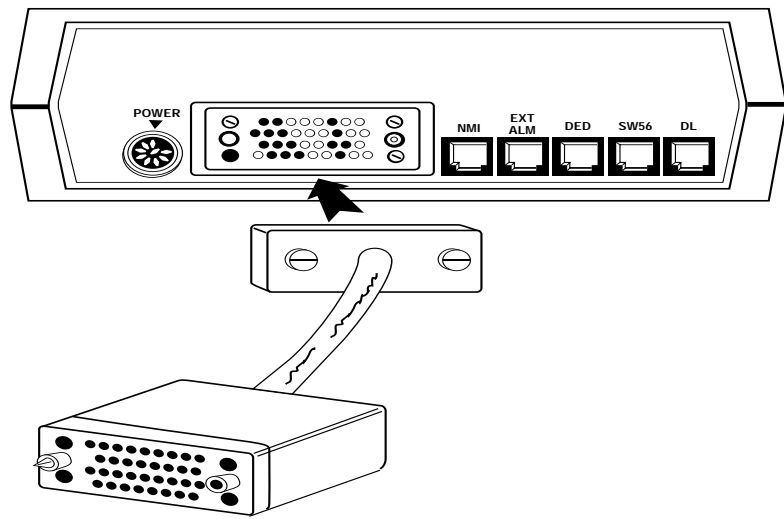

Figure 3-3. V.35 DTE Connection
- **V.35** - Use Adapter Part No. 27C522-02 (25-pin male to 34-pin female) to make this connection. This adapter is provided with the dual interface DAP. Use a standard V.35 cable (34-pin male to 34-pin female) to make this connection. This cable is typically supplied with the DTE. To connect to the DTE, plug the male end of the cable into the adapter and plug the female end into the DTE. Figure 3-3 illustrates this connection. Table 3-2 lists the pin/signal assignments for this connector. (Older dual interface DAPs, Models 15-05A and 15-05B, are equipped with a 34-pin female connector, labeled **DTE V.35**, for connecting to the DTE. Use a standard V.35 cable to make this connection. To connect to the DTE, plug the male end of the cable into the DAP and plug the female end into the DTE. The pin/signal assignments for this connector are identical to those listed in Table 3-2.)